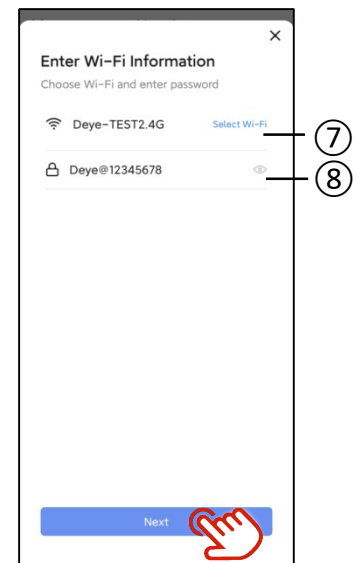

Fig.14 Connect specified WIFI
6. Select the Wi-Fi where the device works and enter the correct password. Then click <Next> to proceed to the next step (Fig.14);